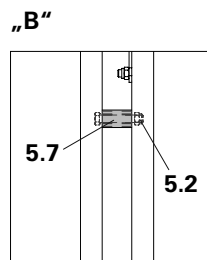

Fig. A3.06a
- Temporarily brace the Strongback (5).
- Loosen bolt of Spacer (5.2) in the Strongback. (Fig. A3.06a)
- Re-install Spacer. (Fig. A3.06a) Carry out procedure on one Strongback above and with the other one below.